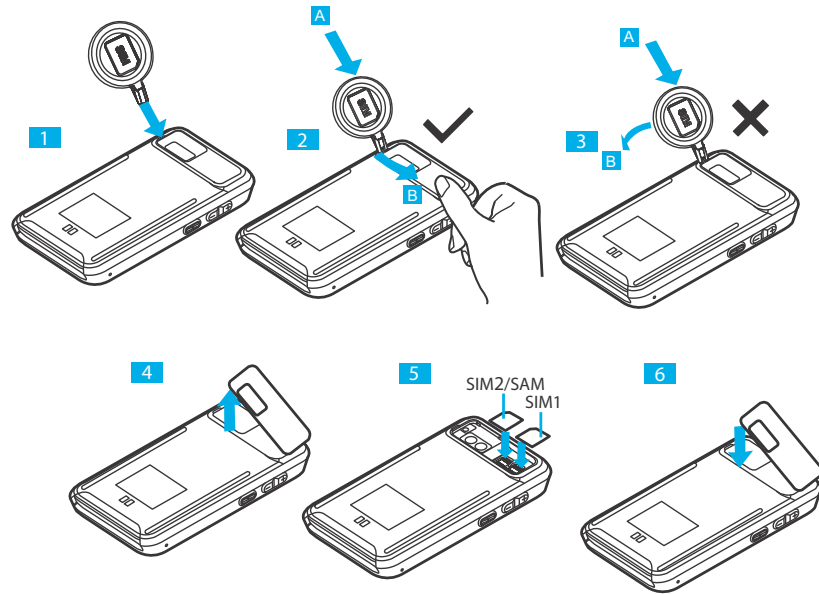

Figure 4 SIM/SAM Installation
- 3 Insert the SIM/SAM door remover in the groove step 1 as shown in Figure 4.
- 4 Insert the SIM/SAM door remover inside the groove and push forward to release the cover step 2 and 4 as shown in Figure 4.
- 5 Inserted SIM/SAM door remover should not be pushed behind to release the cover step 3 as shown in Figure 4.
- 6 Place the SIM/SAM cards step (5) into the slot as shown in Figure 4.
- 7 Place back the cover step (6) as shown in Figure 4.